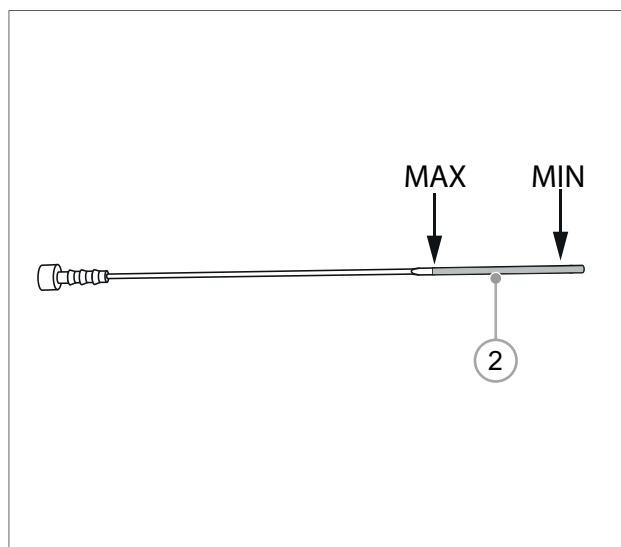

FIG. 52
- 4) Pull out the dipstick (FIG. 52 - Ref. 1) and look for both the full and add oil lines (FIG. 52 - Ref. 2). The correct oil level is between those two lines.